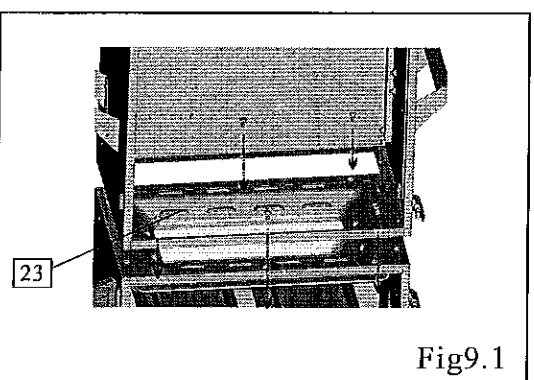

Fig9.1
Procedure: Attach the smoker cabinet and lower cabinet with (10)10#-24*1/2" bolts. Fig 9.1.